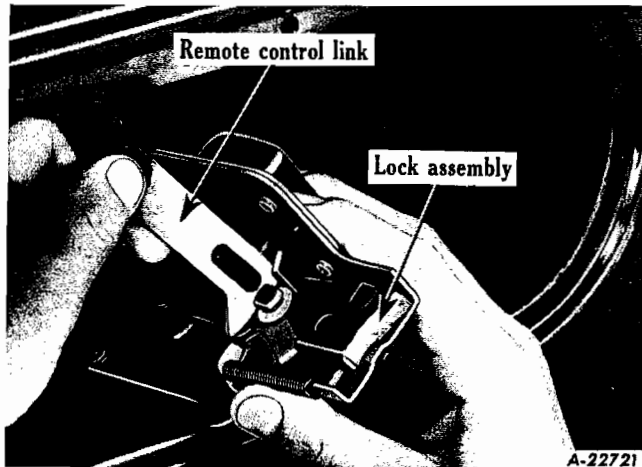

Fig. 42
11. Lower door lock assembly to panel opening. Rotate lock assembly $1/4$ turn counter-clockwise to allow removal of door lock from remote control link (Fig. 42).